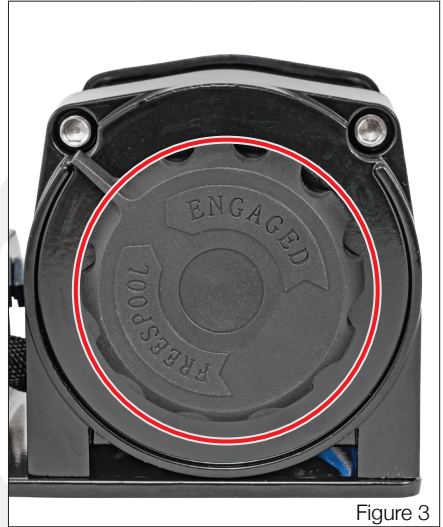

Figure 3
- Attach the #5 Clevis Hook to the cable. Pull and turn the #8 Clutch Knob to the Free Spool position Fig.3.
2. Verify that the winch clutch lever is in the ENGAGED position. Fig.3